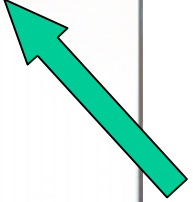
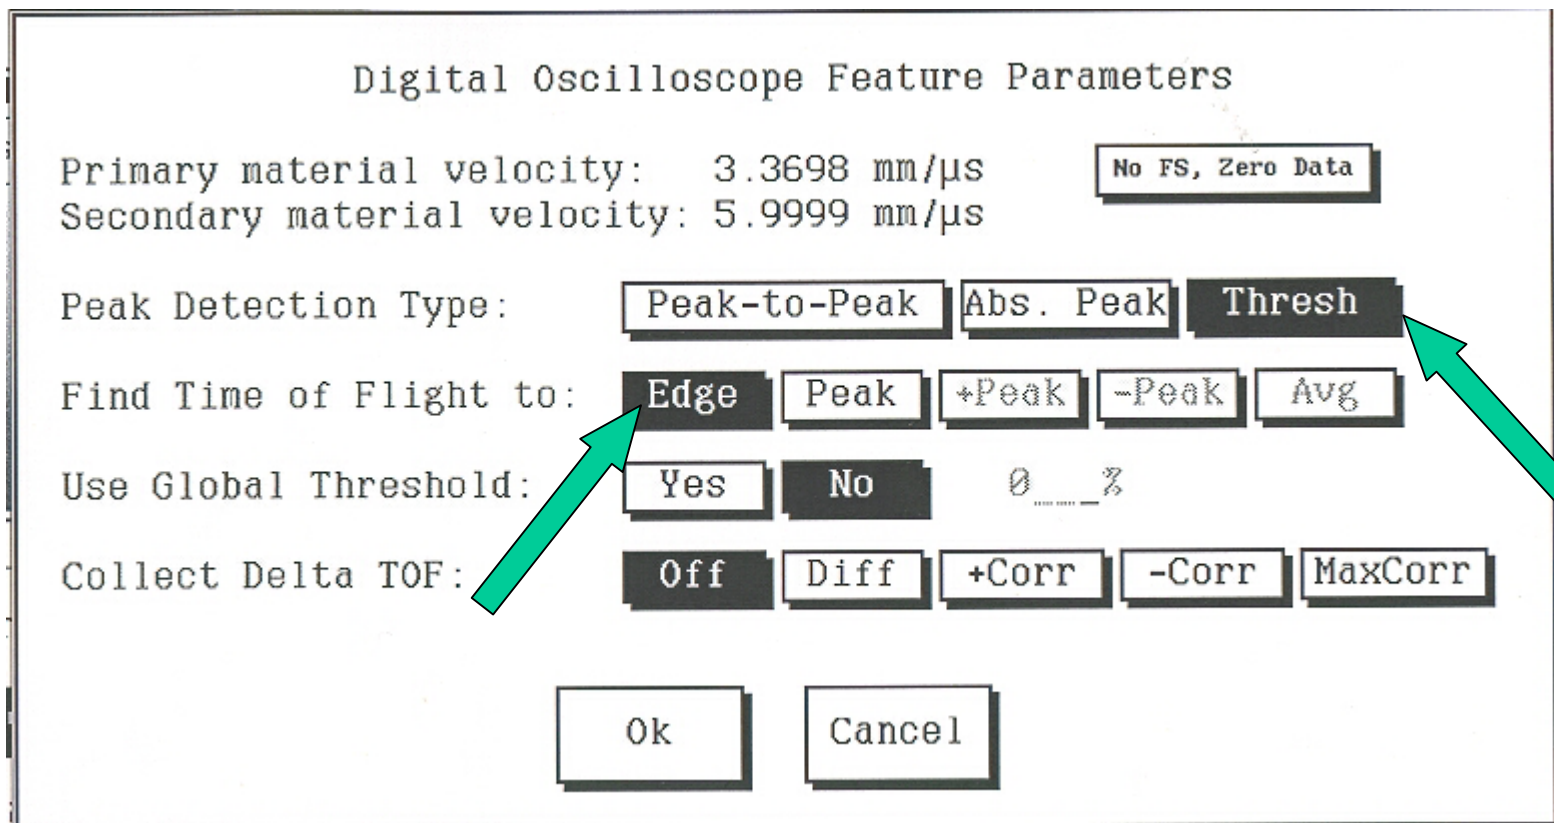

Fig. C1. Configuration window showing set-up for Image Format.
Fig. C2. Feature Parameters window showing set-up for waveform gating options.
1. Place sample on level, smooth surface support plate. In 'configuration' window from 'Edit' menu item, select '16-bit image type' (see figure C1). In 'feature parameters' window from 'Edit' menu, select 'peak-detection type = threshold' and 'time-of flight to edge' (see figure C2). In 'scan set-up' window under 'Scan' menu item, set up scan parameters (figure C3). Perform time-of-flight (TOF) ultrasonic scan for a front surface echo waveform off the sample as described in the Procedures section of this report. Make sure to increase the pulser-receiver gain so as to significantly threshold out the echo so as to have a consistent leading positive or negative edge that will be present at all scan positions (as is physically possible; it is recognized that extreme scatter may occur off very rough surfaces causing significant echo attenuation and leading either to no gate intersection with the echo or a significantly different intersection position along the leading edge) (see figure C4). Place time gate in position to intersect leading edge at desired location. At the scan origin, record the exact time-of-flight in μsec where the gate intersects the leading edge by expanding the digital oscilloscope so echo is highly spread apart, and using the 'locate-measure' cursor under the 'Measure' menu item to find this time. Record the z-motor position in mm. Save the image and parameter files.